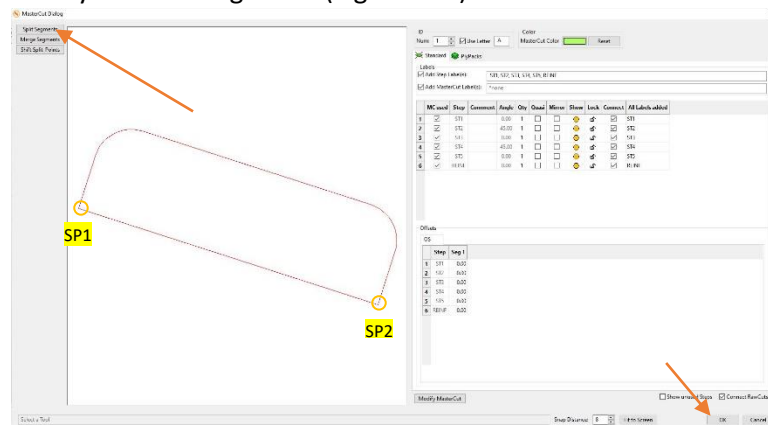

Figure 176
12. **SPLIT SEGMENTS:** Here use the **Split Segments** tool and pick both lower edge points **SP1** and **SP2** to split the outer geometry into two segments (Figure 176).